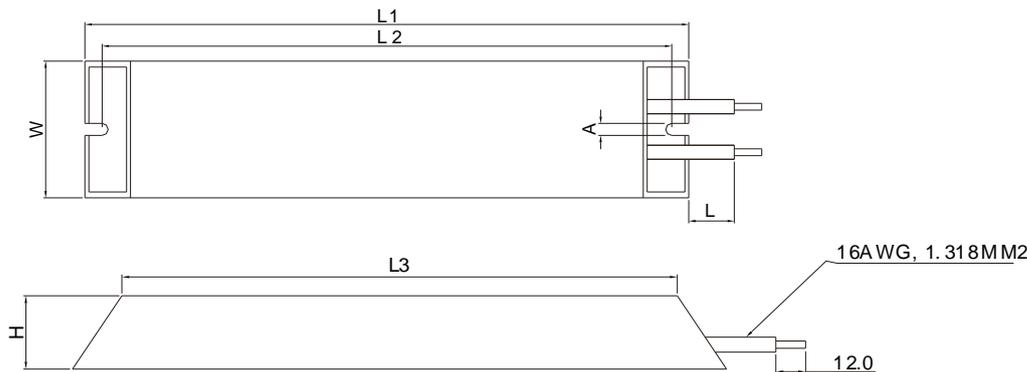

Figure 7-2
1.2 Aluminum housed resistors: For below 1000 W, refer to the following appearance of aluminum-housed resistor (Figure 7-2) and its model and specification comparison table (Table 7-6) for details